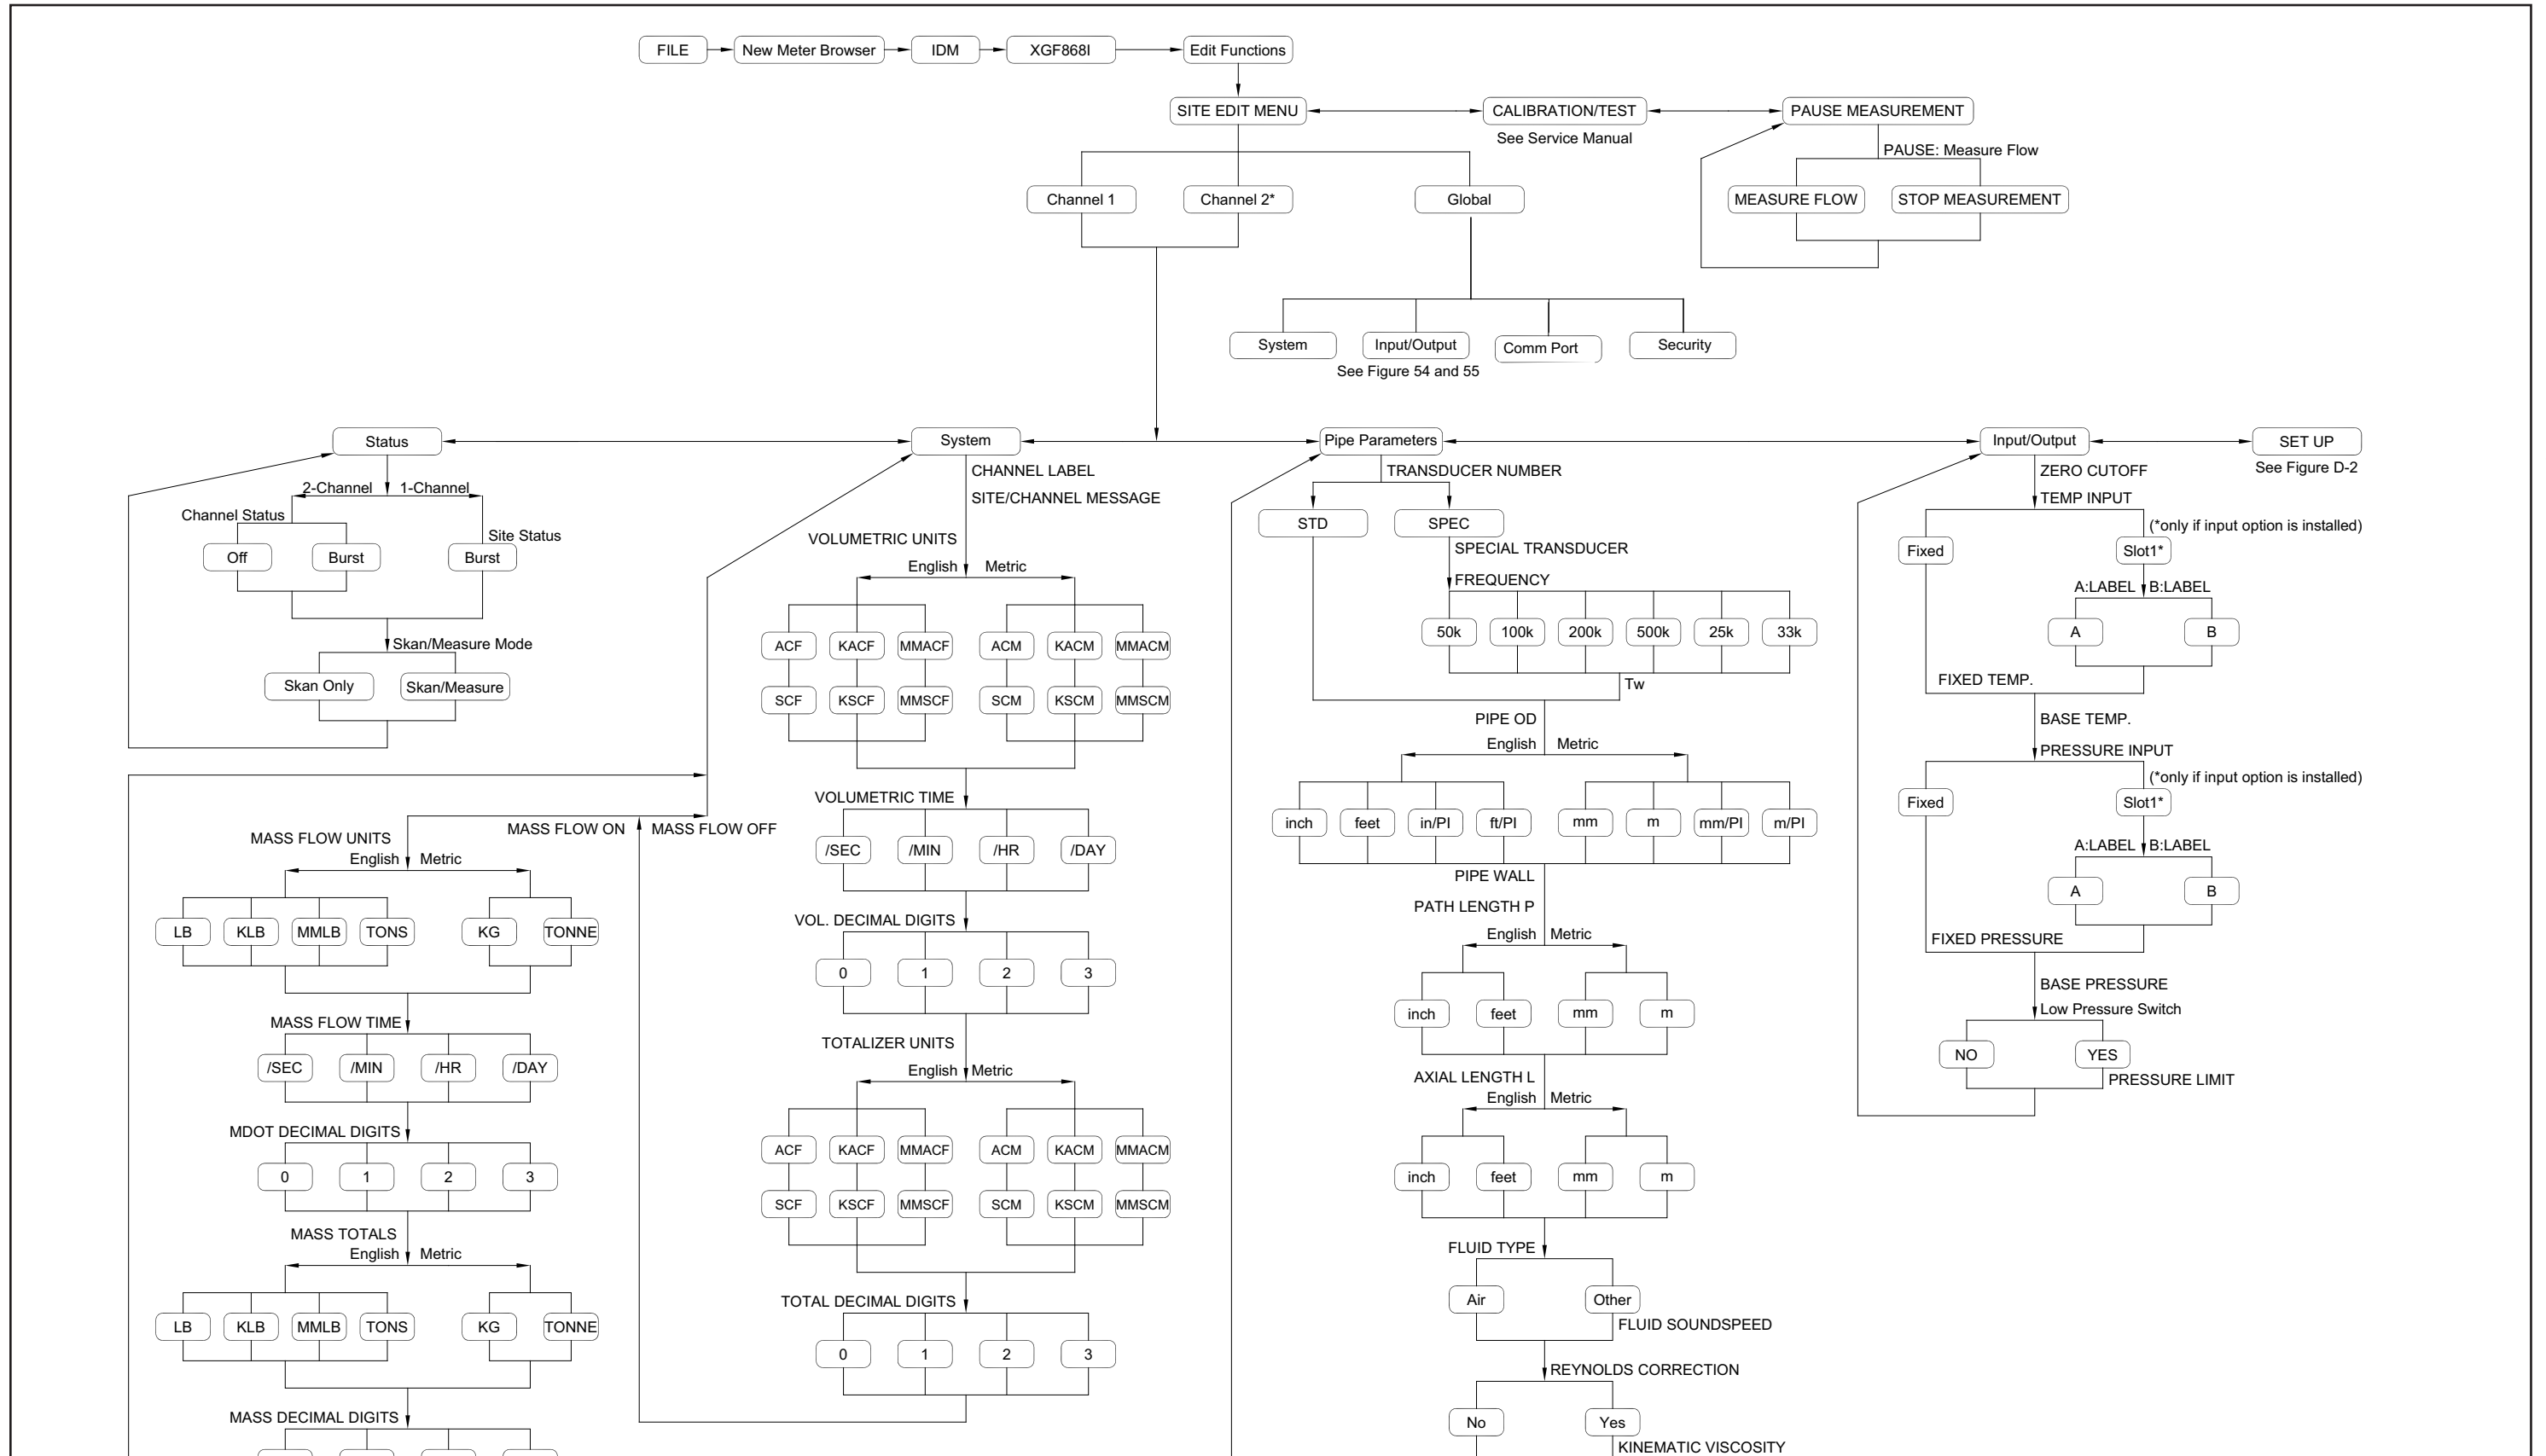

Figure 55: PanaView PROG > CHx > ACTIV, SYSTM, PIPE & I/O Menus
- Figure 55, “PanaView PROG > CHx > ACTIV, SYSTM, PIPE & I/O Menus,” on page 131